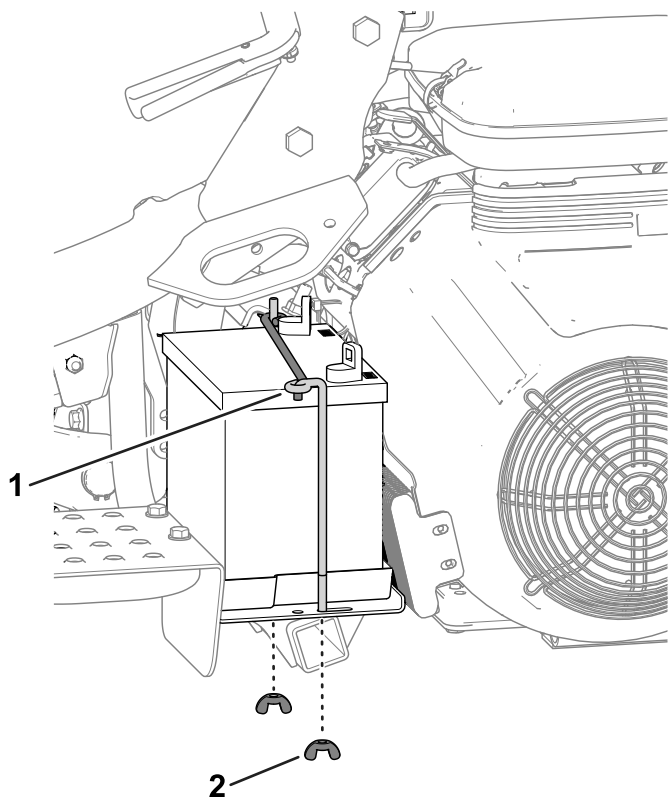

Figure 33
2. Remove the wing nuts and rods that secure the battery to the platform (Figure 33) and lift out the battery.
5. Place the battery on the battery tray and secure it with the previously removed rods and fasteners (Figure 33).